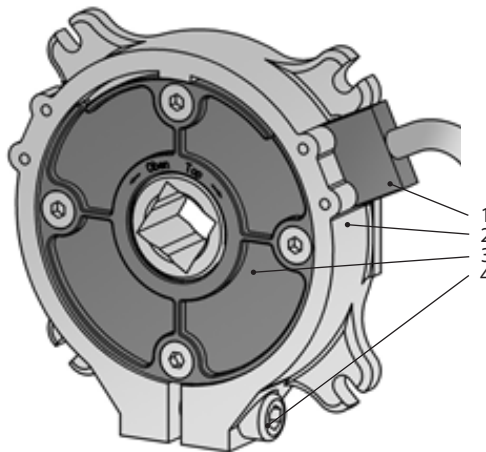

Fig. 2 Safety brake structure
Along with the tube blocking, the electric motor is switched off because of the rotation of brake central part (Fig.2. pos.3) relative to the frame (Fig.2, pos.2). Rotating, the brake presses the switch (Fig.2, pos.1) and breaks the power circuit of the electric motor.